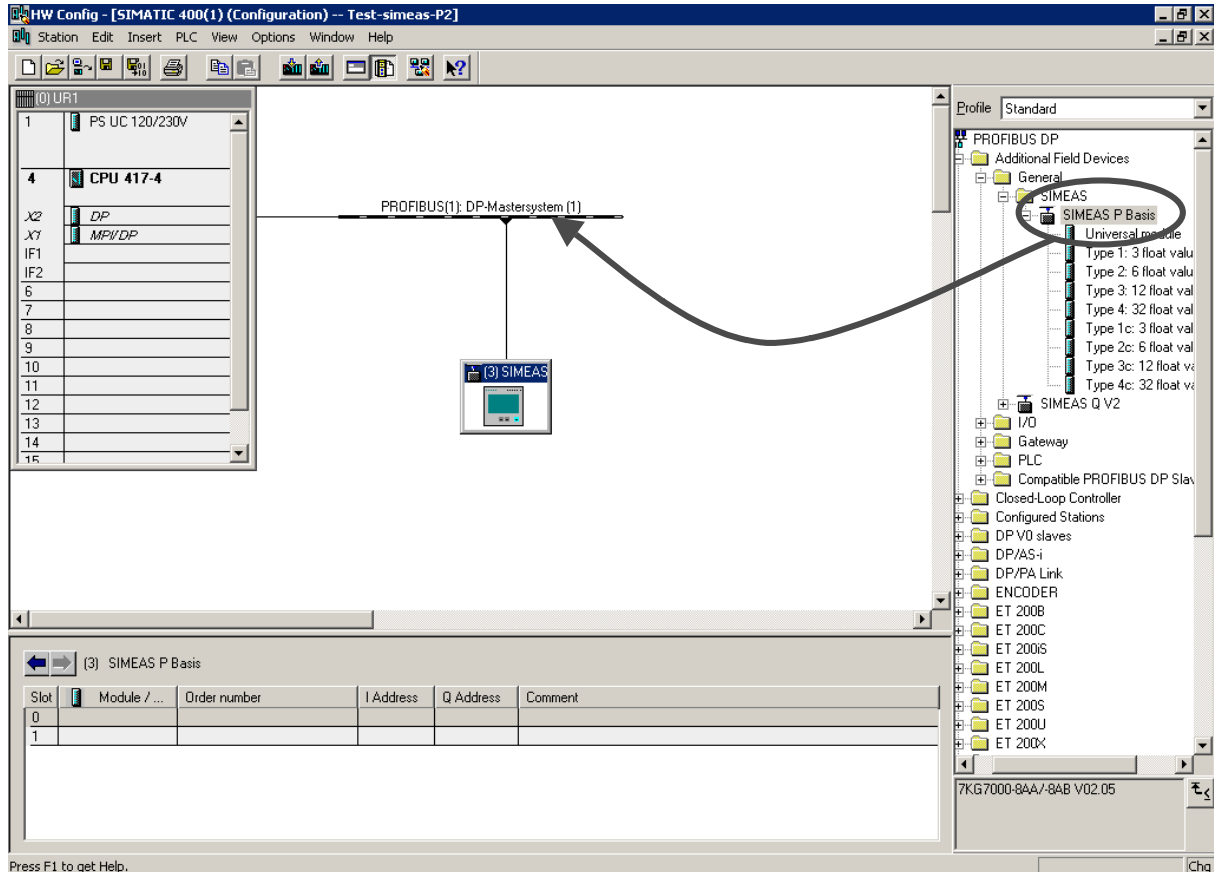

figure 2: Definition of a SIMEAS P in a Profibus network
- Define a SIMEAS P in your SIMATIC Project afterwards, by using the drag and drop functionality. Select the device folder SIMEAS P Basis in the hardware catalog on the right hand side and drag it into the configuration window (see: figure 2: Definition of a SIMEAS P in a Profibus network). Afterwards a SIMEAS P will be shown in the window.